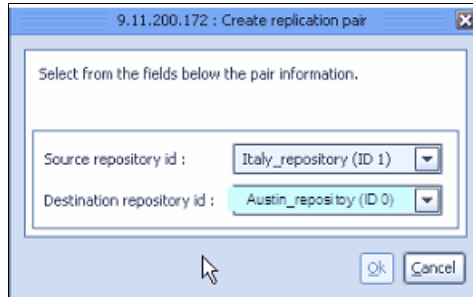

Figure 5-105 Source and destination repository
2. In the next window, set up the source repository and destination repository. In our example, you can see that the source and the destination repository must be different. A message will be displayed if the source repository and the destination repositories are the same (Figure 5-105).